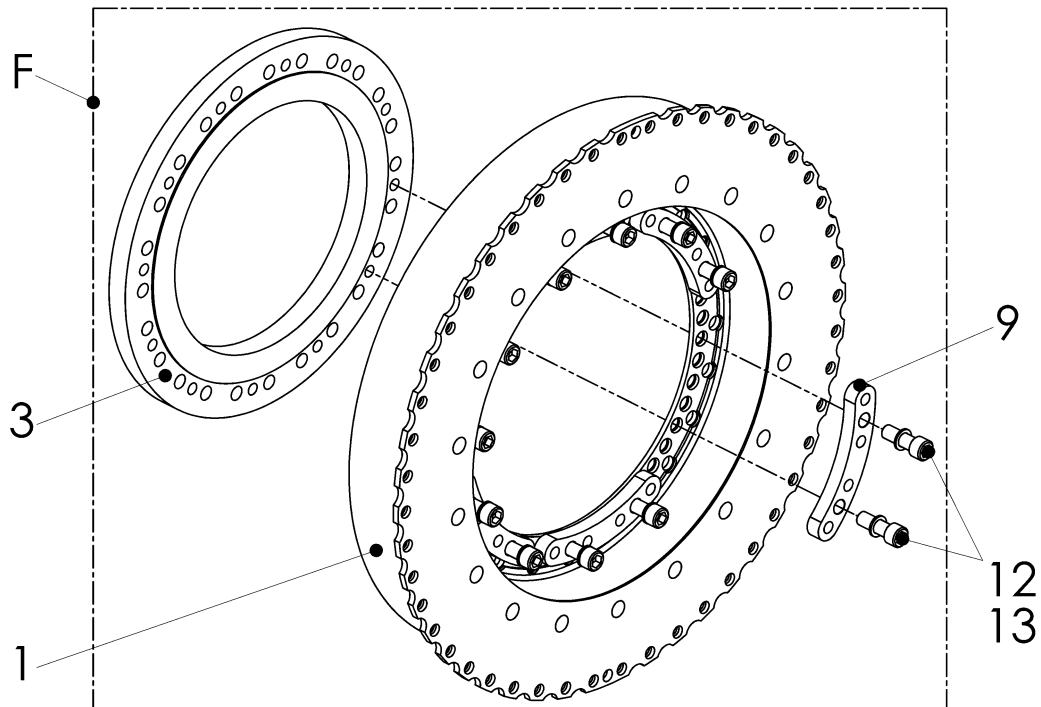

Fig. 9-2 Dismantling the rubber element assembly of the coupling size 80
- Push the ring (3) into the centring of the rubber element (1).
- Screw the rubber element (1) to the ring (3) using the screws (12) and the washers (13).
9.9.2 Reassembling the rubber element assembly of the coupling size 80**See Fig. 9-2:**
- Screw the rubber element (1) and the inner segments (9) to the ring (3) using the screws (12) and the washers (13).